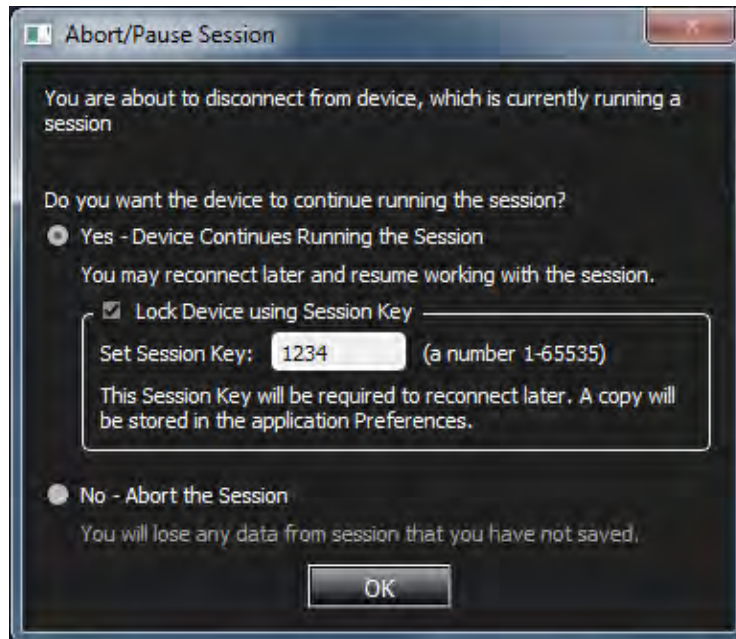

Figure 3.38: Continue the Recording Session
- Close the Project but continue Recording Data Traffic and return to the Session in the future. See Figure 3.38.